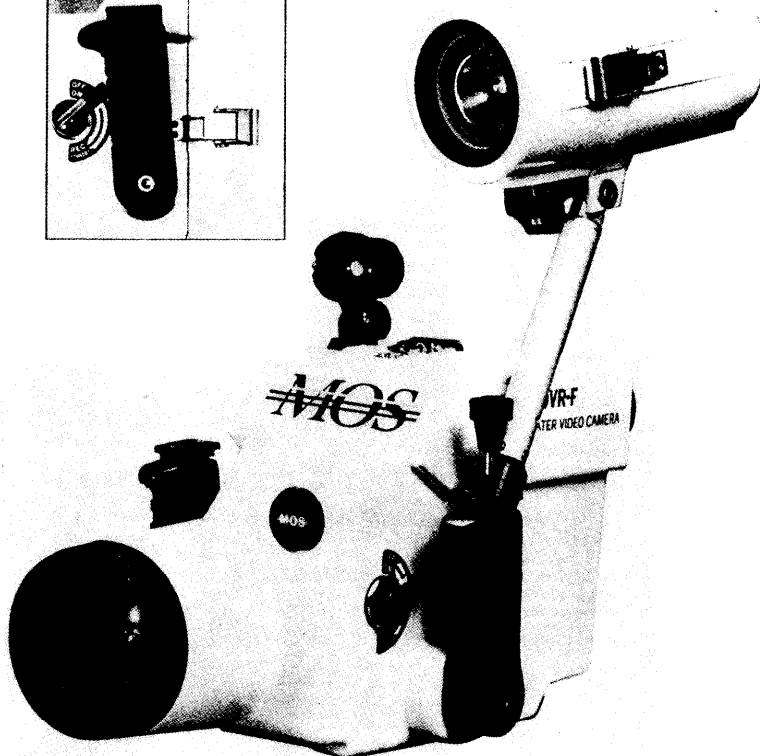

Figure 1. MOS VR-F, Diver Camera System
a. MOS VR-F, Diver Camera System (Figure 1)